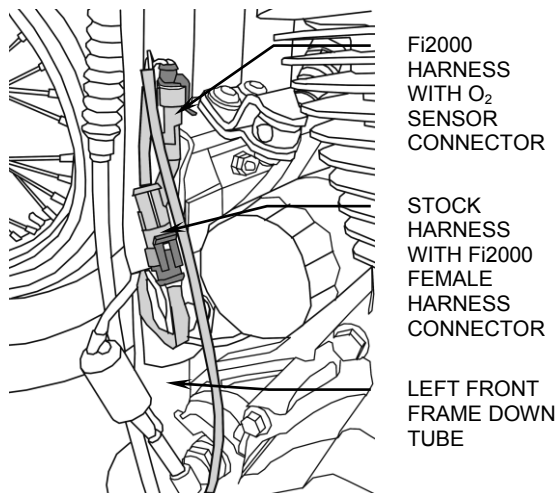

FIGURE 3
7. Now route the longer O2 harness down and forward along the left side bottom frame rail. Ziptie the harness in 3 places. The connectors will end up at the front O2 connection. Unplug the factory connection and again plug the corresponding Fi2000 connectors into the matching Harley connectors. Use one ziptie and the factory U-clip to hold the connections to the frame down tube. See Figure 3.
9. Before re-installing the seat and left side cover, verify your connections. Remove the door from the Fi2000 box to expose the LED's. Verify the wire connections by (1) turning the ignition on, prior to starting, and see if all three LED's are on steady. If you have no light, your ground connection (BLACK wire) has not made proper contact or your front injector connection is not complete. (2) After achieving a steady light from all three LED's, start the motorcycle, wait 15 seconds and let it idle, the green light should now be the only LED on. If all three LED's are still on after start up, verify you have attached the injector connectors correctly. Reattach the door when finished. **Note:** Make sure the ignition is turned off before changing any connection.